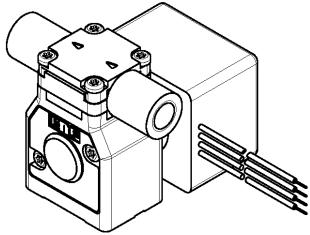

Fig. 5: Optimum installation position for one-headed pumps: horizontal
- Installation position → Generally speaking, the pump can be installed in any position. For maximum accuracy and rapid venting of one-headed pumps, please install as shown in the illustration (Fig. 5).